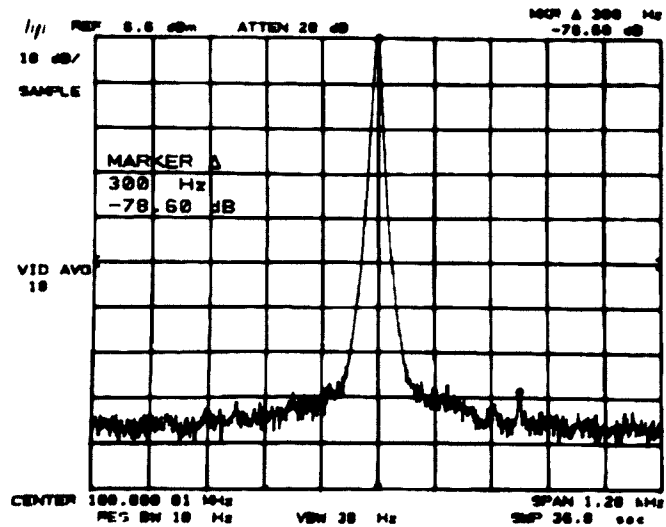

Figure 2-25. Line-Related Sidebands Measurement
8. Press MARKER **PEAK SEARCH** **Δ** and position the marker at the peaks of the line-related sidebands separated from the signal by multiples of the line frequency (e.g., 120, 180, 240, 300, 360, 420, 480, and 540 Hz for a 60 Hz line frequency). The fundamental line frequency cannot be resolved. Refer to Figure 2-25.